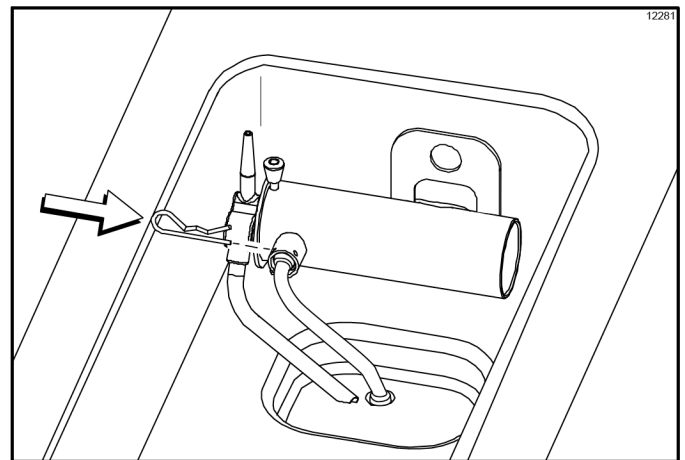
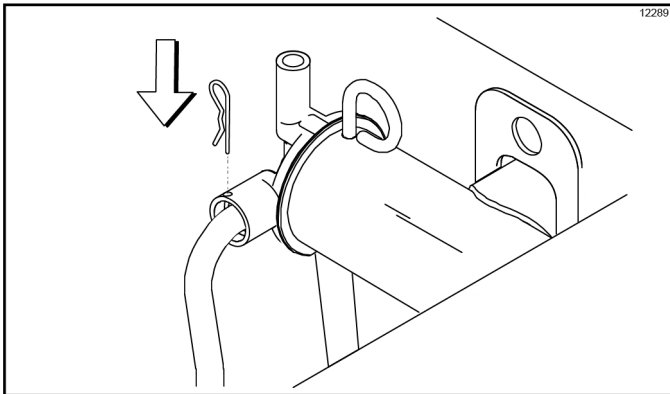

Figure 6-49 Coaxial Pump
Figure 6-50 Simplified Pump
3. When the mix stops bubbling down into the freezing cylinder, remove the cotter pin from the outlet fitting of the mix pump. Insert the outlet end of the mix feed tube into the mix inlet hole in the mix hopper. Place the inlet end of the mix feed tube into the outlet fitting of the mix pump. Secure with the cotter pin. (See Figure 6-49.) (See Figure 6-50.)